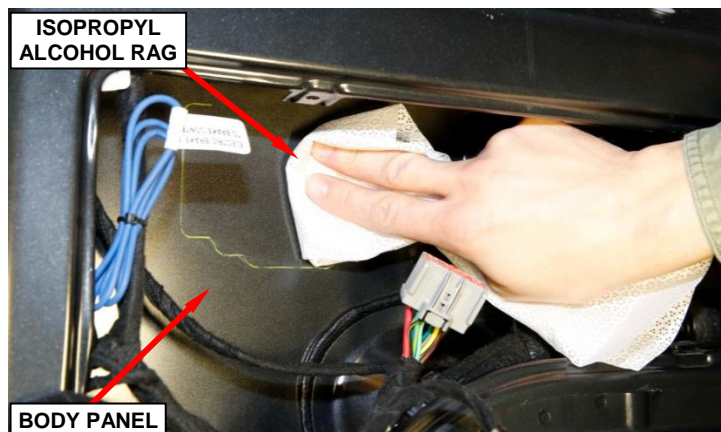

Figure 22 – Remove Residual Adhesive
25. Use a clean rag and isopropyl alcohol to remove any residual adhesive from the module mounting area (Figure 22). Allow 60 seconds to dry before installing the new module.